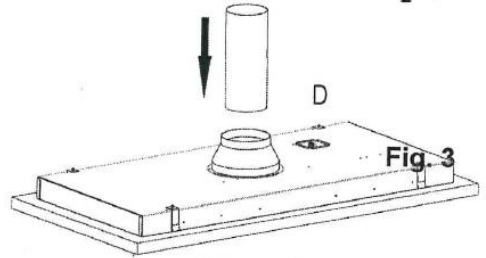

Fig 7
5. Attach the ducting to the outlet (Fig 7).